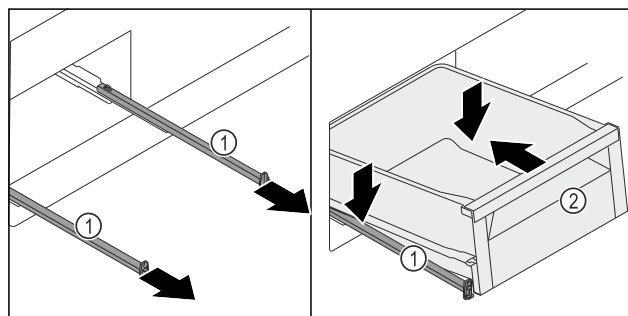

Fig. 138
- Pull out the rails Fig. 138 (1).
- Hold the rails Fig. 138 (1) firmly and place the drawer Fig. 138 (2) diagonally from above onto the rails Fig. 138 (1).
- Push the drawer Fig. 138 (2) on the rails Fig. 138 (1) to the back as far as it will go.